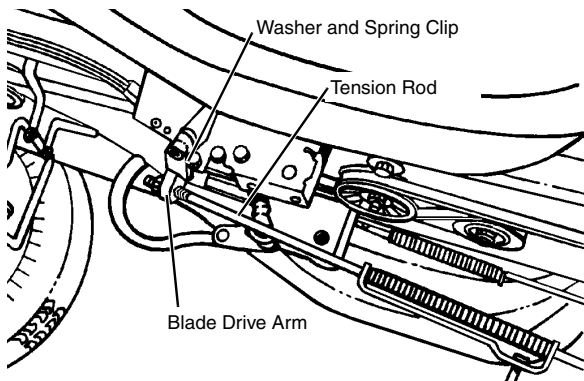
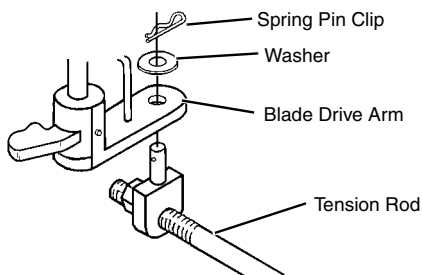

FIG. 10
FIG. 11
- Raise tension rod and attach to blade drive arm using flat washer and spring pin clip from parts bag. (See FIG. 10 and FIG. 11)